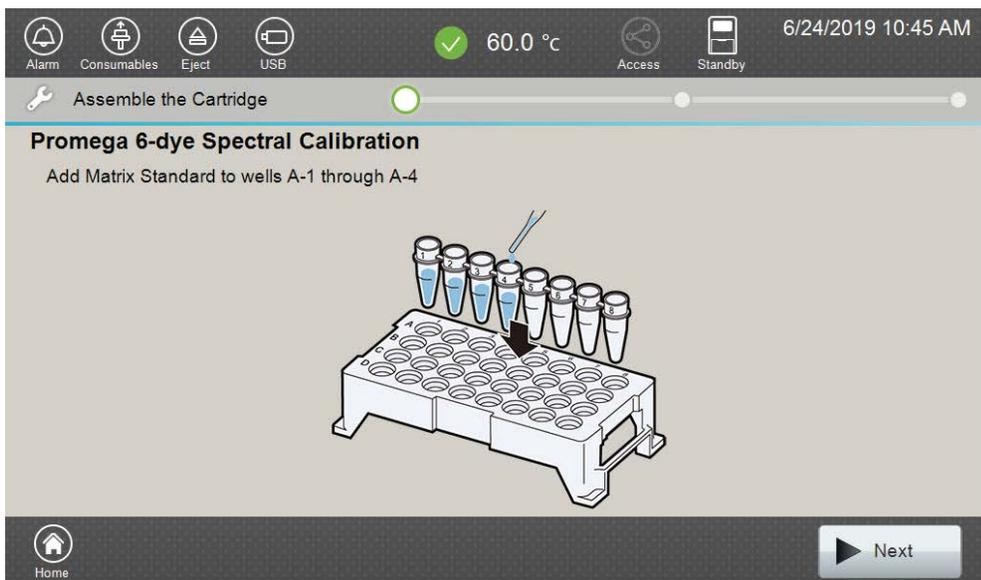

Figure 7. 'Assemble the Cartridge' screen.
4. Use the scroll arrows on the right-hand side of the 'Dye Set List' screen (Figure 6) to find the correct Dye Set/Application Type/Polymer combination from the displayed list. To perform a spectral calibration using the PowerPlex® 6C Matrix Standard on Polymer4, select "Promega 6-dye" with "Fragment" and "Polymer4" as application and polymer types, respectively, then select **Calibration**. The 'Assemble the Cartridge' screen will open (Figure 7).
5. Select **Next** on the 'Assemble the Cartridge' screen (Figure 7). A message window will open indicating that the autosampler is moving and telling the user to not open the door. In addition, the status indicator flashes green while the autosampler is moving. After autosampler movement is complete, the message window closes and the status indicator returns to a steady green.